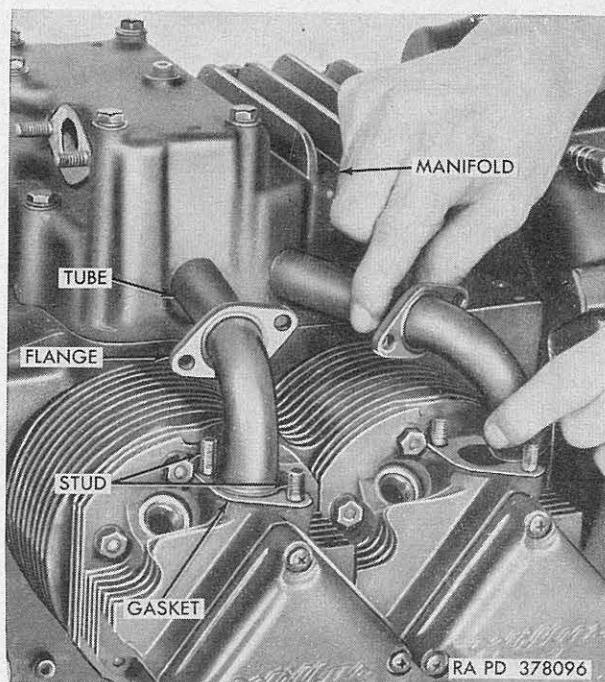
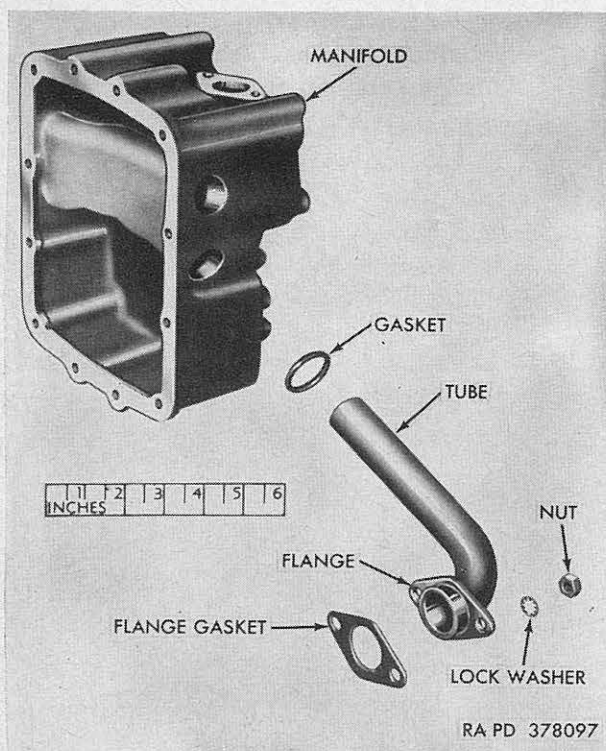

Figure 25. Removing intake tube from intake manifold.
Figure 26. Intake tube and parts exploded from manifold.
- (1) Install new O-ring gasket (fig. 26) in annular groove in intake manifold. Install new flange gasket (figs. 25 and 26) on studs in cylinder head. Install flange on tube, counterbored face first. Push tube into bore of manifold as
shown in figure 25, being careful not to damage O-ring gasket. Slide flange down tube onto studs and secure with two  $\frac{1}{4}$ -28NF brass hex nuts, tightened to a torque of 96 to 132 pound-inches.